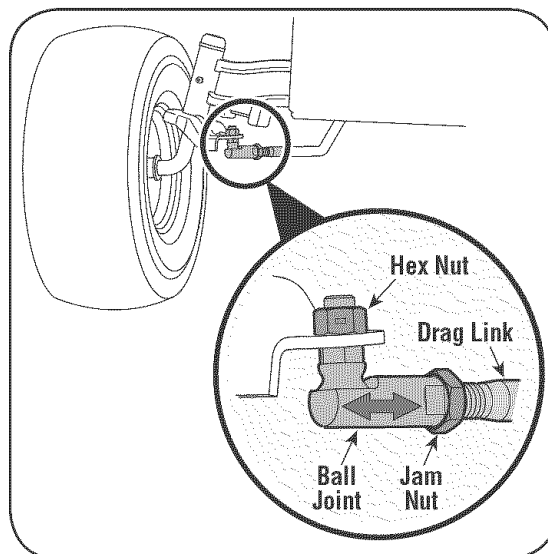

Figure 15
- Loosen the jam nut found on the drag link at the rear of the ball joint. See Figure 15.
- Remove hex nut on the top of ball joint. See Figure 15.